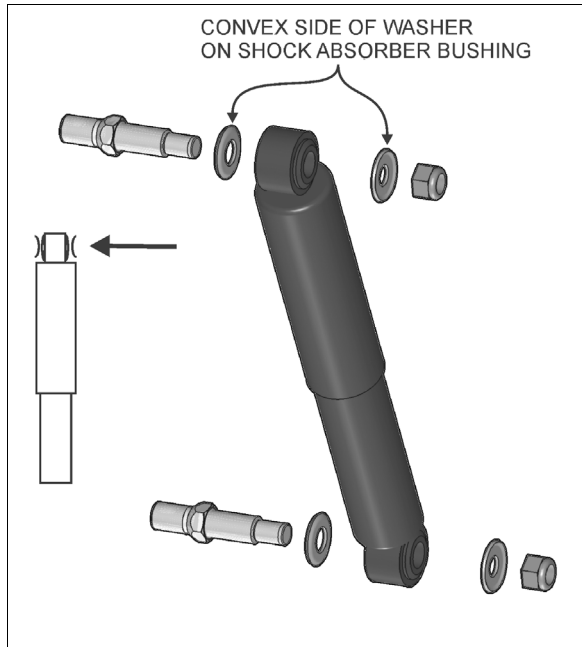

FIGURE 4: SHOCK ABSORBER 16008
1. Remove nuts and washers from shock absorbers on upper and lower mounting pins, taking care to identify the inner and outer washers to ease reinstallation. Refer to Figure 4 for details.